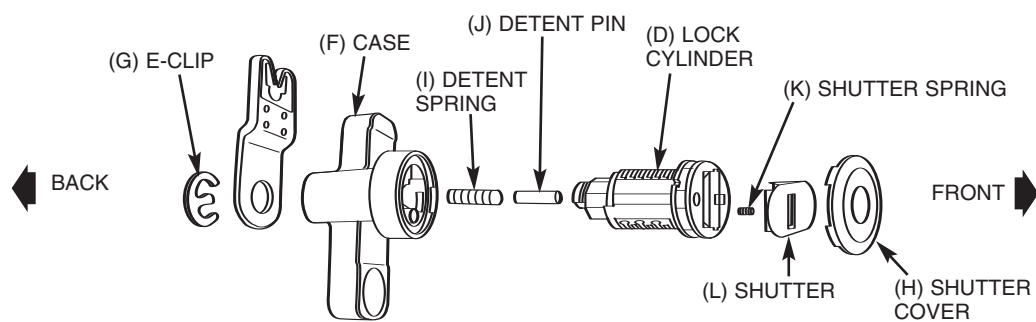
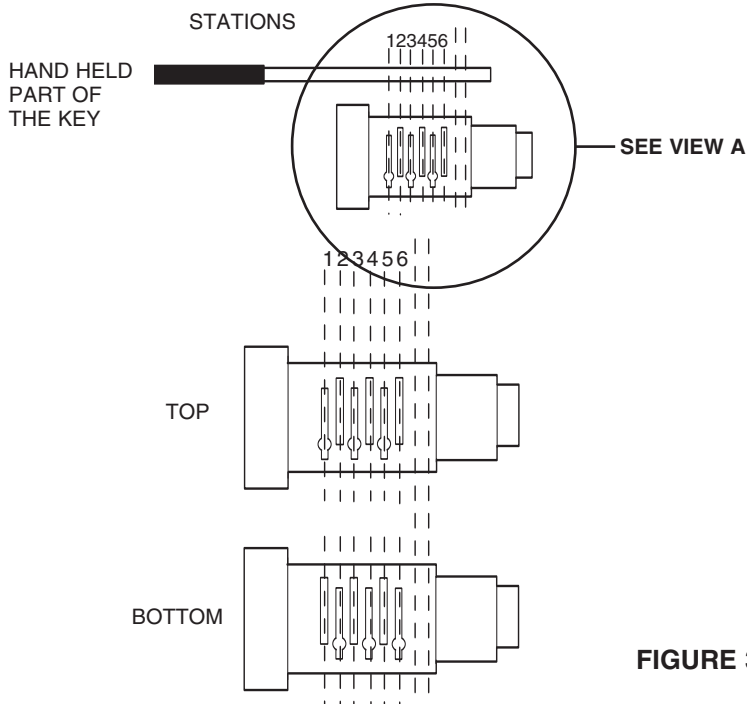
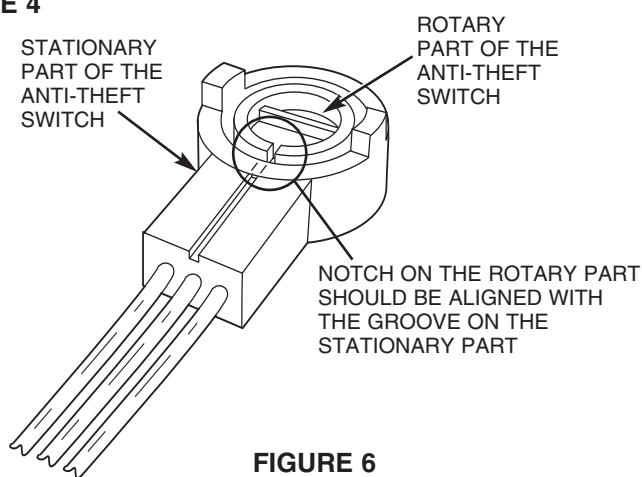

FIGURE 2
FIGURE 3
FIGURE 6
2. Assemble case detent spring (I) and detent pin (J) in case (refer to Figure 2).
3. Insert the shutter spring (K) into the round hole at the front of the lock cylinder (D), if not installed already.
4. Insert the shutter assembly (L) into the rectangular depression with notches at the long ends, located at the front of the lock cylinder (D), if not installed already.
6. Insert one (1) tumbler spring (C) into each of the holes located at the end of the tumbler slots on the lock cylinder (D).
7. Insert the required tumblers (B1, B2, B3, B4, or B5) into the tumbler slots in the proper orientation (refer to Figure 3), and in the sequence that match the key cut depths for key stations 1, 2, 3, 4, 5, and 6.
9. With the key in the lock cylinder sub-assembly (D), apply the included grease (E) to the tumbler slots.
10. With the key in the lock cylinder (D), insert the lock cylinder into the appropriate lock case (F).
11. Rotate the lock cylinder (D) within the lock case (F) at least ten (10) times so that the grease applied to the tumbler slots is distributed along the inner surface of the lock case (F) and the exterior surface of the lock cylinder (D).
12. Position the key in a vertical orientation and remove the key from the lock cylinder sub-assembly (D) while keeping the lock cylinder sub-assembly (D) within the lock case (F).
13. Place the shutter cover (H) over the lock case (F) and the lock cylinder (D). Use a pair of small pliers to gently bend the four (4) tabs on the shutter cover (H) inward toward the center of the lock case (F) to secure the lock cylinder (D) within the lock case (F).
14. Assemble the anti-theft (if so equipped) and then the lock lever in the orientations and directions recorded in steps A and B above. When assembling the anti-theft switch to the lock, **do not** rotate the rotary part of the anti-theft switch with respect to the stationary part of the anti-theft switch or vice versa (refer to Figure 6).
15. Install the E-clip (G) to the back of the lock cylinder (D) assembly to secure the lever and switch (if so equipped).